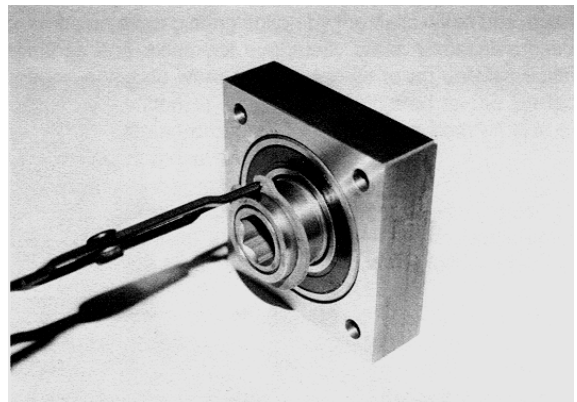

FIGURE 45
5) Position the bearing block on a suitable work surface. A common shop vise can also be utilized. Remove the snap ring that retains the bushing in the bearing bore. FIGURE 45.